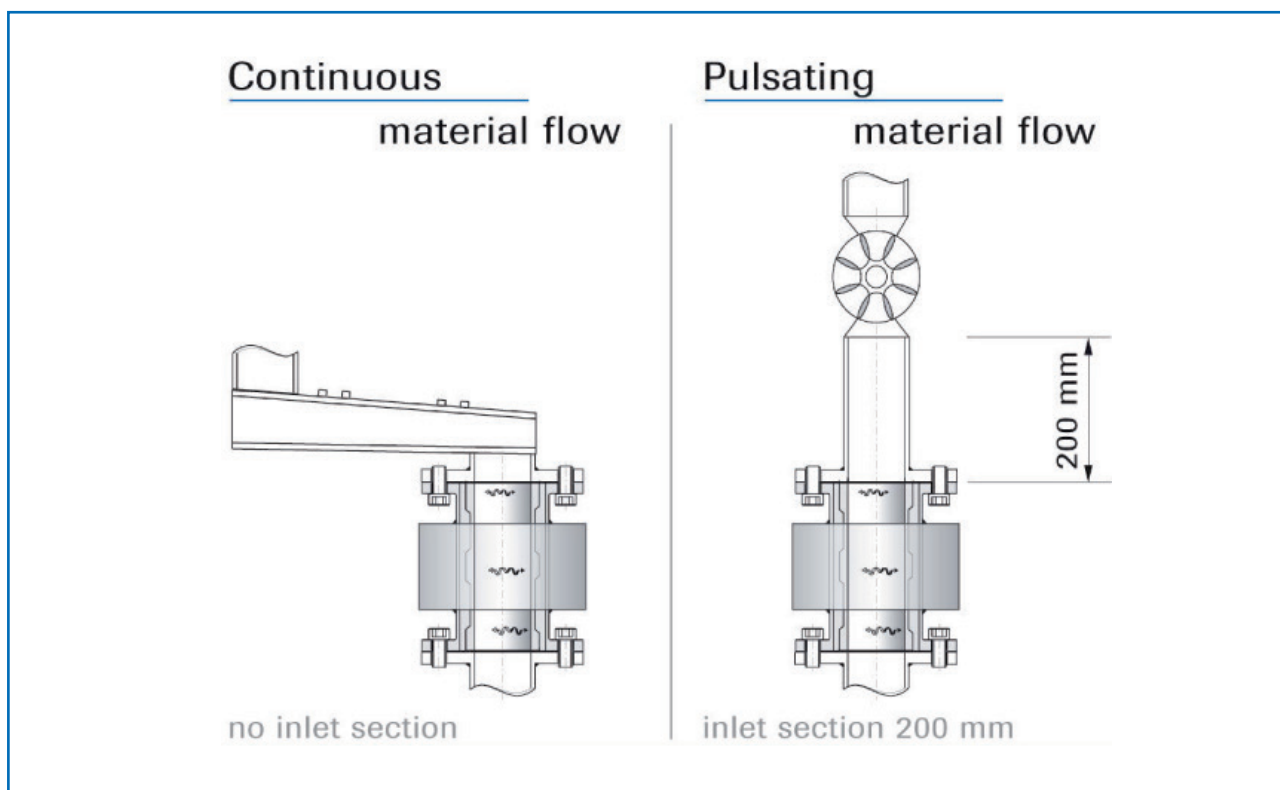

Fig. 3: Minimal distances of the sensor to control devices
- Ensure that the correct distance is selected from control devices, e. g. rotary valves, etc. As this will determine velocity criteria, (see fig. 3).